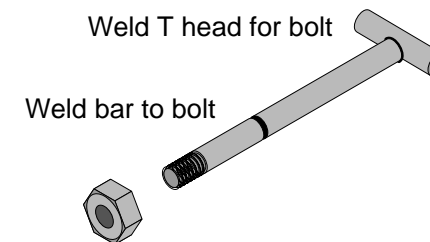

Figure 8: method of fixing draught pole using U-bolts.
- 6) The draught pole vertical extension is made from 12mm round bar. To fix it you will need to make long bolts as in Figure 8 from round bar and M12 bolts.